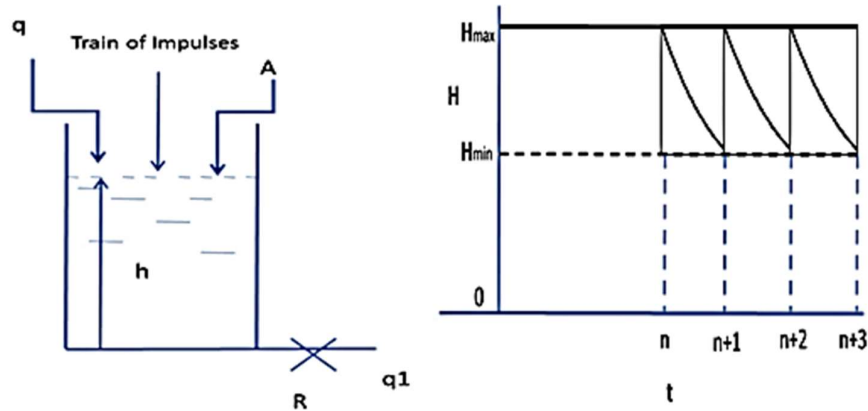

Fig. 2: The liquid level system and periodic output wave train
- (b) The liquid level system as shown in Fig. 2, is initially at steady state with an inlet flow rate of 1 cfm. At time zero, one ft3 of water is suddenly added to the tank; at t=1, one ft3 is added and so on. In other words, a train of unit impulses is applied to the tank at intervals of one minute. Ultimately the output wave train becomes periodic as shown in the figure 2. Determine the maximum and minimum value of this output and determine the level at t=0.5, 1 and 1.5. Data: Area= 1 ft2; Time constant=1. [3]